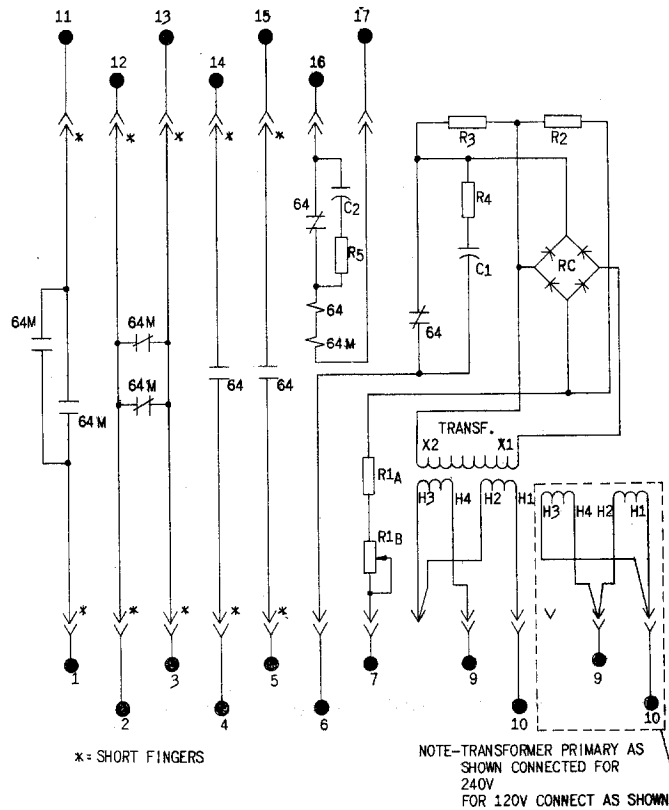
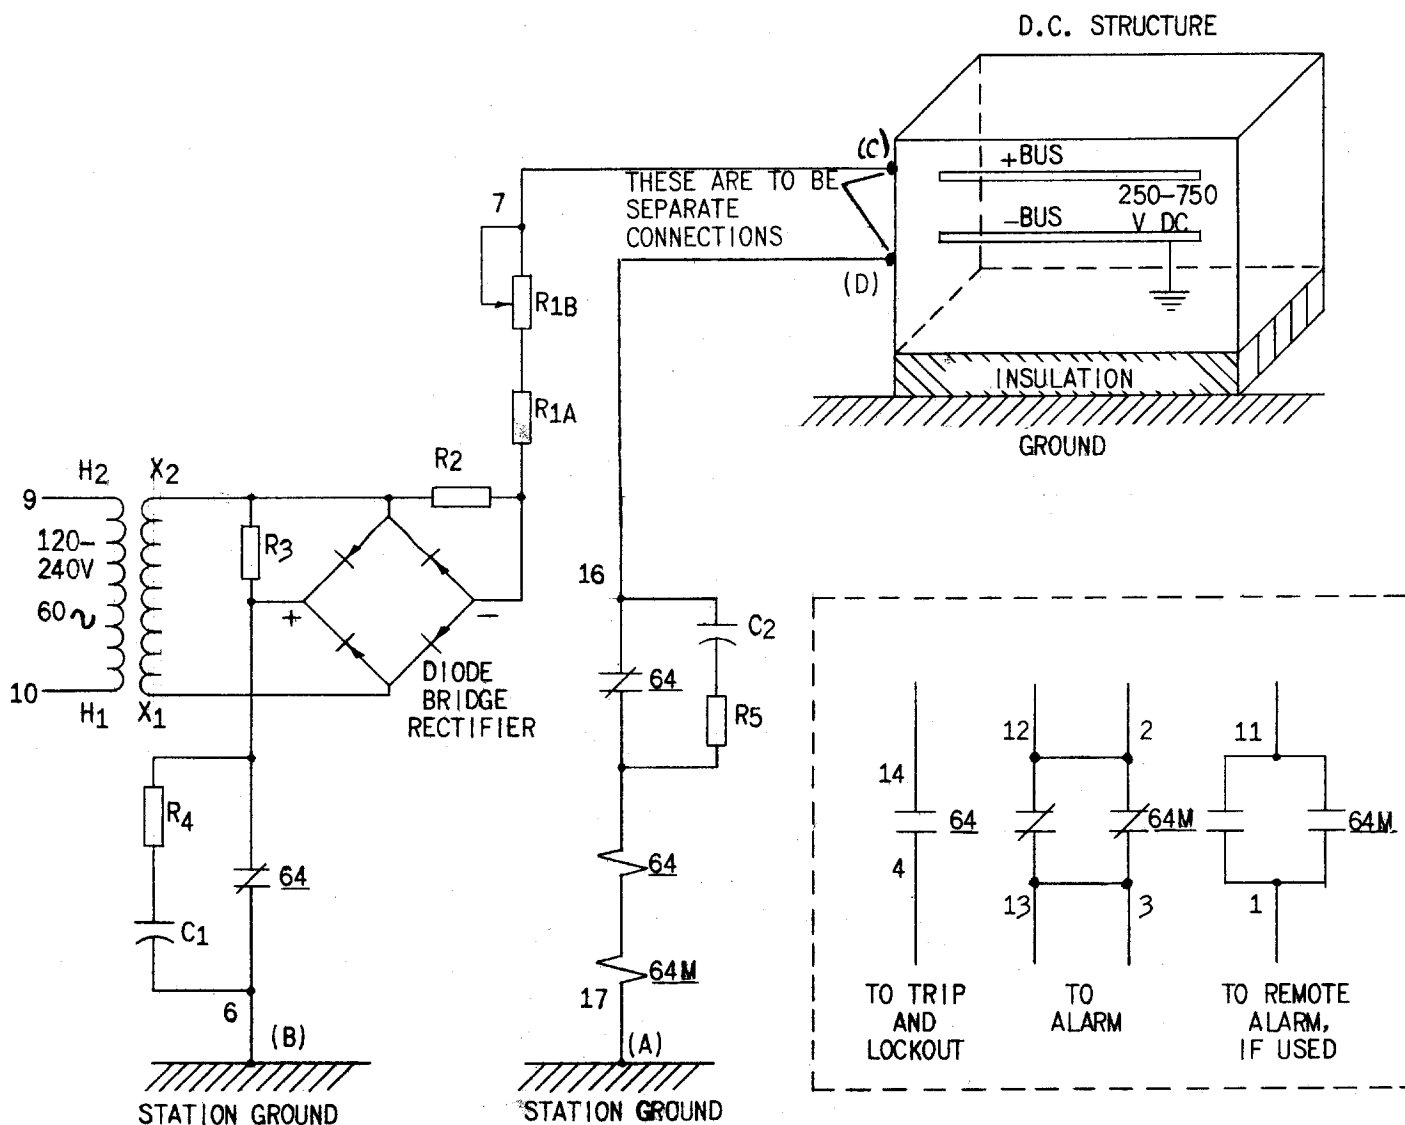
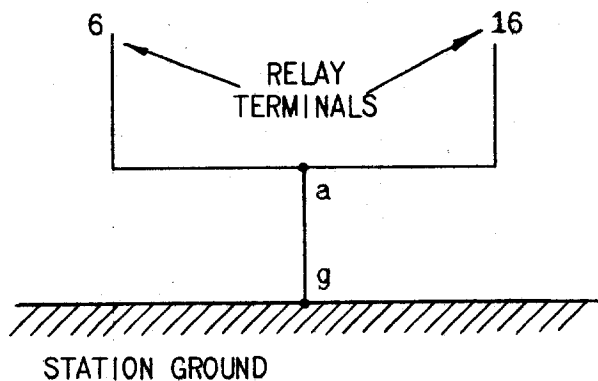

Fig. 2 (418A811-4) Connections For Type PBG11A Relay (Front View)
Fig. 3 (459A288-3) External Connections For Type PBG11A Relay
Fig. 4 (459A286-1) Non-recommended Connections (SEE TEXT)
With the relay adjusted as outlined in the adjustment section and connected as shown in Fig. 3 operation is as follows:-
The structure to be protected is ungrounded for paths DA and CB (Fig. 3). Should the ungrounded bus polarity come in contact with the structure, voltage is applied to the 64 coil. The 64 unit picks up and trips all the breakers feeding the bus thereby de-energizing the bus and clearing the fault. When the 64 unit operates, it lifts a target into view and latches in the operate position. The cover carries the reset mechanism which resets the target and unlatches the 64 unit. The fault current is limited to a maximum value of approximately 3 amperes depending on the system voltage and fault resistance. The d-c resistance of paths DA and CB is approximately 450 ohms each.
To check the continuity of the fault detecting circuit (64 unit), the relay has built into it a monitoring scheme. Referring to Fig. 3 during normal (unfaulted) conditions the diode bridge rectifier
It is noted here that the connections shown in Fig. 3 are for systems which have a negative ground. Thus, the polarity of the diode bridge is such that the diodes do not have to block the d-c system voltage, although they are capable of withstanding system voltage for a short time. If the system has a positive ground, it is suggested that the connections to studs 6 and 7 be reversed.
The PBG11A relay has a dual rating of 120 or 240 volts. When the voltage of the relay is not given on the requisition, the transformer (see Fig. 2) is wired for 240 volts.
1. The transformer primary will be connected for 240 volt operation unless otherwise specified when ordered. If 120 volt operation is desired, reconnect the transformer primary as shown in the insert of Fig. 2.
Internal connections are shown in Fig. 2. Typical external connections are shown in Fig. 3.
Note that on the external connection diagram (Fig. 3) the ground connections (A & B) must be physically separate. The reason for this can be seen in Fig. 4.
The existence of the above conditions may make it desirable to readjust the sensitivity of the 64S unit to structure grounds. To do this, the relay should be connected as shown in Fig. 3 with the DC bus energized. Connect a source of variable AC voltage to studs 9 and 10 (after removing normal supply). Vary the input voltage as in Step 4 of the Laboratory Tests Section, noting that the operation of the 64 and 64S units should be as indicated. If, when the test voltage is reduced to 80% of rating, the 64S unit drops out, this indicates that either the output of the diode bridge is being shunted by the leakage path pointed out in (1) above or that as pointed out in (2) above, there is some current flow from the bus to the structure. In either case, to prevent the 64S unit from dropping out when the AC voltage is reduced to 80% of rating resistor R_{1B} can be readjusted. Decreasing R_{1B} causes more current output from the diode bridge for a given input voltage and thus lowers the dropout of the 64S relay. If R_{1B} is decreased, it will be necessary to check that the 64 unit does not pick up when the AC voltage is increased to 110% of rating. Should the 64 unit pick up, it will be necessary to readjust its pickup level. To increase the pickup, turn the knurled screw in the calibrating tube so as to lower the pointer below the calibration mark. Since increasing the pickup of the 64 unit desensitizes it to faults involving the DC bus and the DC structure the pickup should be increased to a level no more than necessary to prevent its operating when the supply voltage is increased to 110% of rating. After the above tests have been completed, remove the test voltage and reconnect the supply voltage to studs 9 and 10.